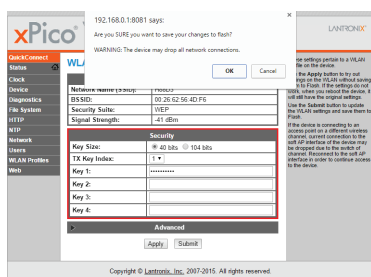

Figure 21: Complete Connection
9. Click on the OK button in the dialog box. Ignore the displayed warning during the final process. **Note:** The device in the warning is XPicoWiFi. See Figure 21.